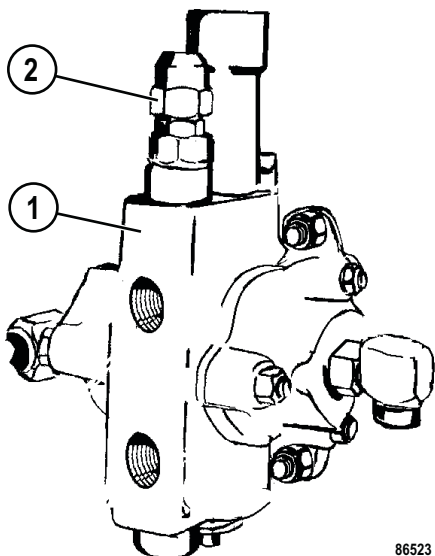

FIGURE 50-35. HOIST PILOT RELIEF VALVE
3. Remove snap ring (1), capscrews (6), cap (24), spacer (23), and detent sleeve (22). Detent balls (2) and (21) will fall free when the cap and detent sleeve are removed. Separate cap (24), spacer (23) and detent sleeve (22).
4. Carefully slide spool (14) out of spool housing (17). Remove seal retainer (25), wiper (26) and O-ring (27) from the spool.
5. Insert a rod in the cross holes of detent pin (3) and unscrew it from spool (14). Exert slight pressure against the detent pin as it disengages and spring tension is released.
6. Remove spring seats (19), spring (4) and spacer (5).
7. Remove relief valve (2, Figure 50-35) from spool housing (1).